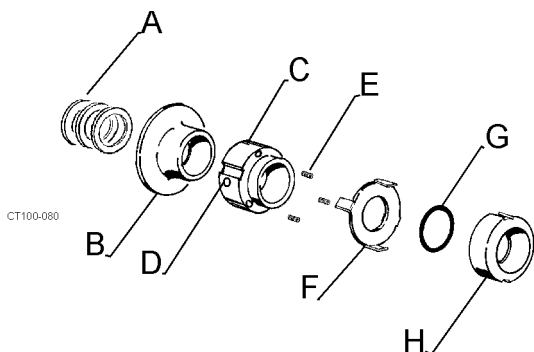

Figure 2 - Type 1 Seal Items
4. Remove deflector. (Figure 2, item B).
5. Loosen set screws (2) (Figure 2, item D) in spring retainer (Figure 2, item C) and slide retainer and
washer (Figure 2, item F) off shaft. Save springs (3) (Figure 2, item E).
8. Remove O-ring, then lift rotary seal off shaft. (Figure 2, items G and H).